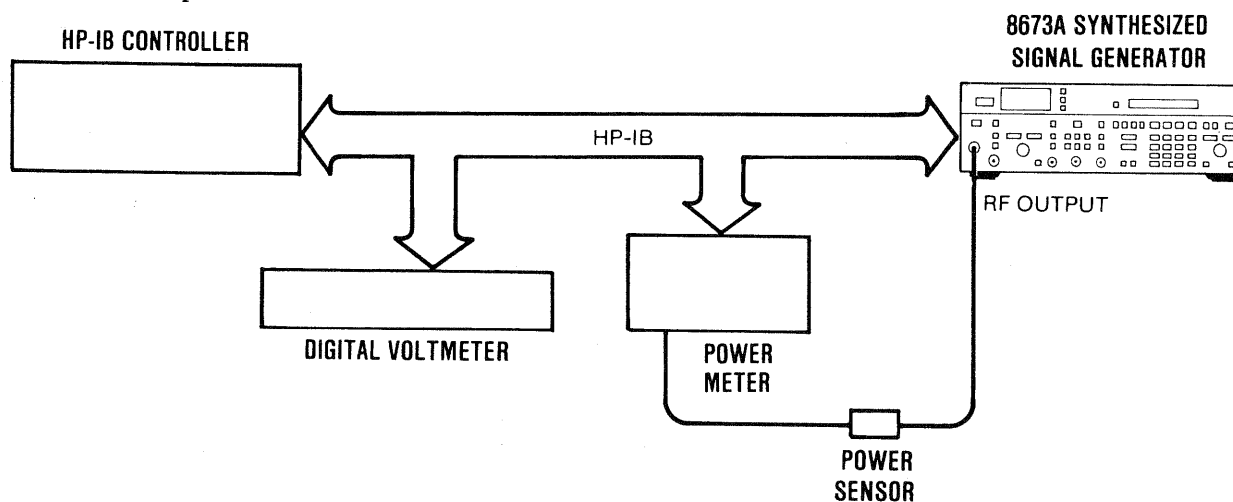

Figure 5-26. Flatness and ALC Adjustments Test Setup
3. Connect the equipment as shown in Figure 5-26.